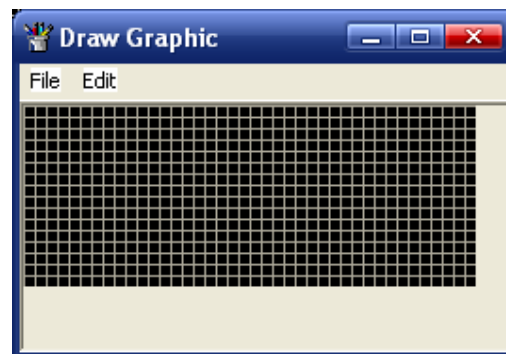

Fig2.11
5. In draw graphic window (fig2.11 show) drawing your graphic. After click ‘Save and Return’ command under edit menu of draw graphic window.
The draw graphic work area is as fig2.11 shows.